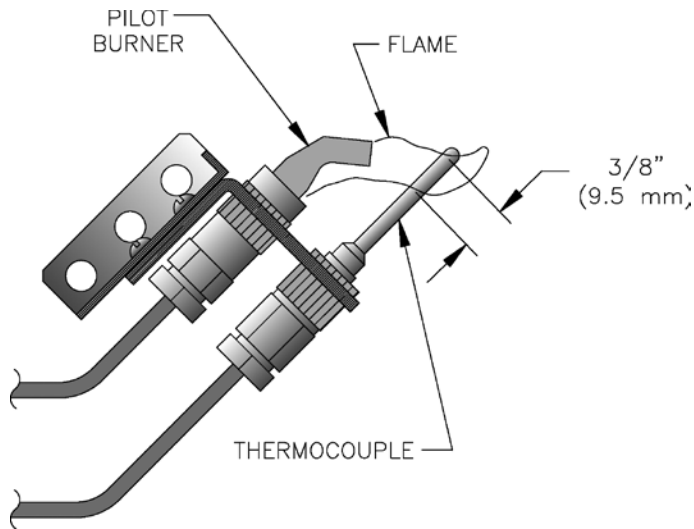

Figure 53: Pilot Burner Flame, Honeywell Q350
- a. Continuous Ignition (Standing Pilot), Models IN3 through IN7. See Figure 53. Pilot burner produces a single flame. Flame should be steady, medium hard blue enveloping 3/8 to 1/2 inch of thermocouple.